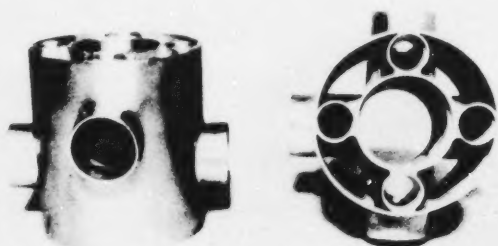

Figure 37-20. NPS 8 x 4 x 3 Fitting Designed for Back-to-Back Two-, Three-, or Four-Bath Installations
60. The NPS 8 x NPS 4 x NPS 3 IBVS special fitting shown in Figure 37-20 is designed for use in back-to-back, two-, three-, or four-bath installations. Each NPS 3 fixture opening has its own NPS 1½ back-vent. The flexibility of this fitting lends itself to numerous other fixture applications.